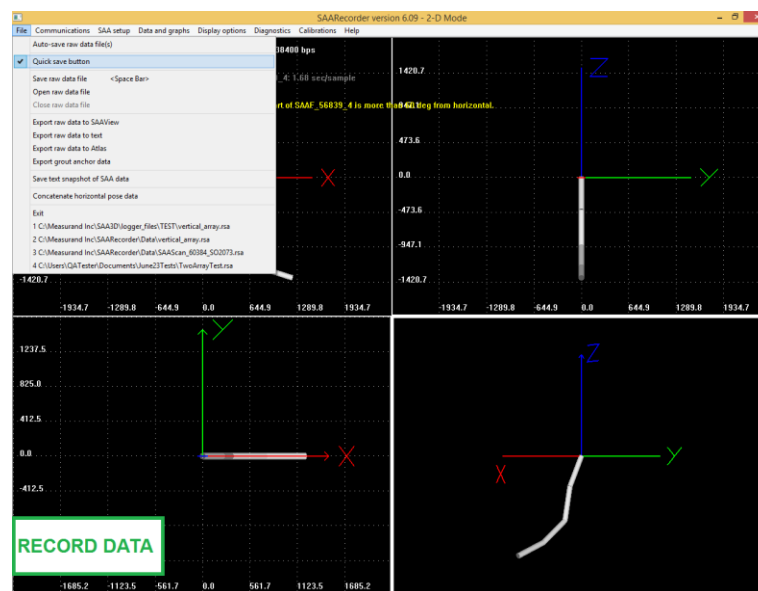
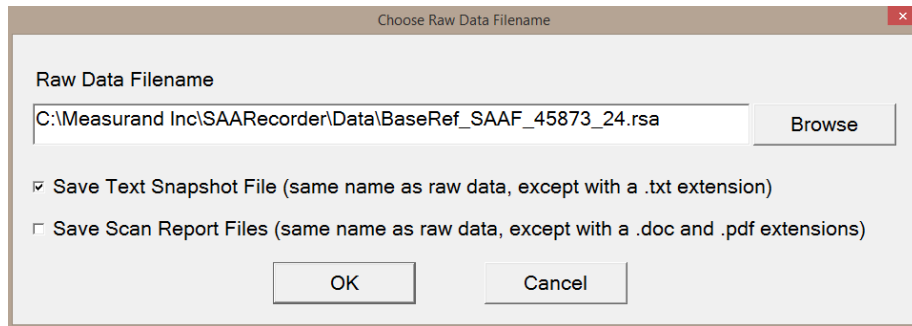

Figure 6.22: The green 'Record Data' button that appears when 'File | Quick Save' is selected.
Figure 6.23: The 'Choose Raw Data Filename' window that appears once recording is complete.
When clicked a large green 'Record Data' button appears on the bottom left of the window **Figure 6.22**. When clicked it records one sample for all segments of each SAA and then creates a raw data file prompting for a unique file name **Figure 6.23**.
- Selecting the 'File | Close Raw Data File' menu item, see **Figure 6.23**.
Once the recording has been stopped, a dialog appears prompting to select a filename for the recorded data, similar to **Figure 6.23**.